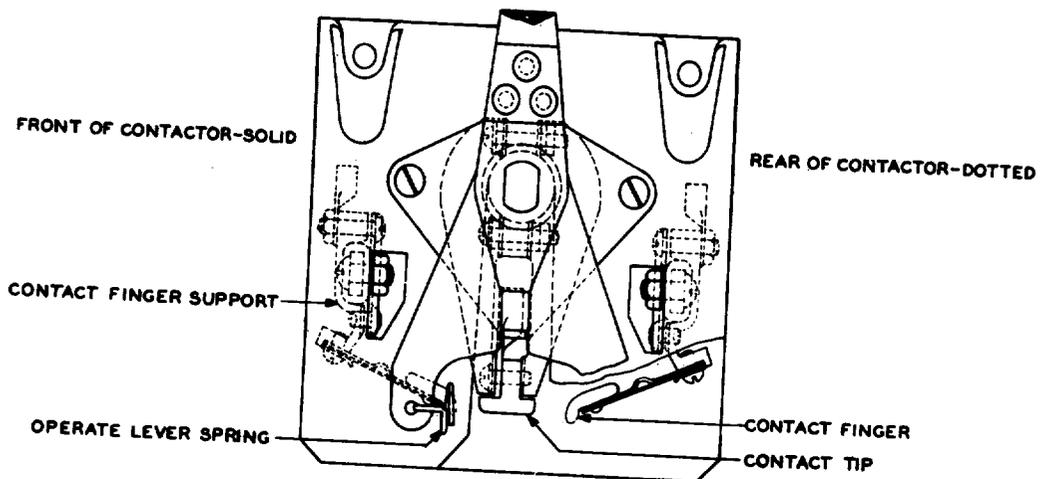

Fig. 8 - Rotary-type Contactor Mechanism on Form K1 Starter
5. To revise Fig. 8, 9, and 10.